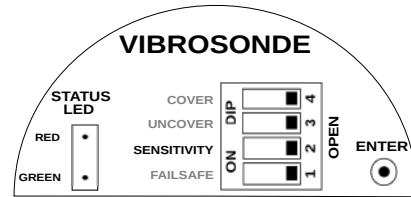

Figure 9: Saving Sensitivity Value
4. The value of sensitivity is now entered, but not saved. To save and test the sensitivity, set the SENSITIVITY switch back to OPEN position as shown in Figure 9. The STATUS LED will come back to its original position.